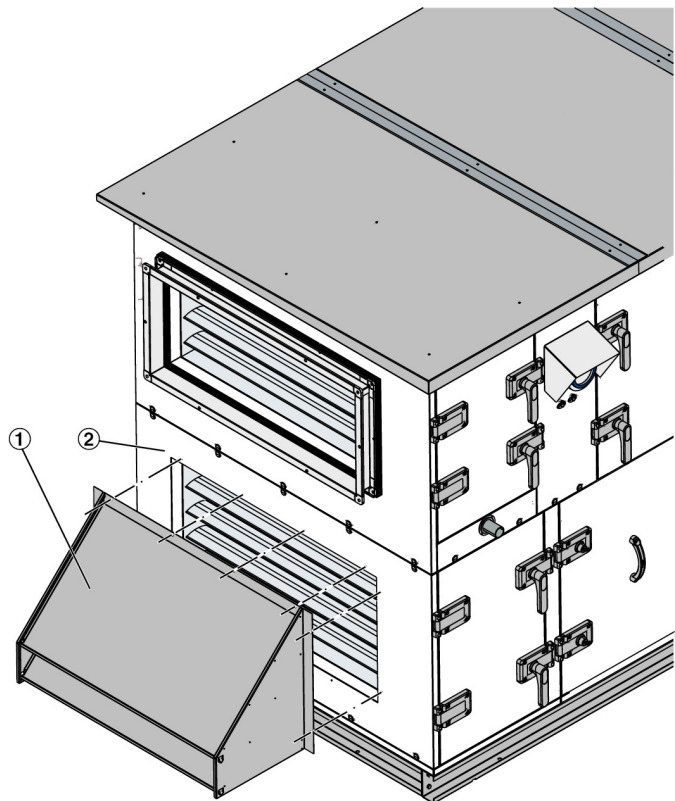

Fig. 23: Positioning the weather hood
- ▶ Position the weather hood ( Fig. 23 /2) flush with the hole pattern on the panel ( Fig. 23 /1) and screw on with pan head screws (M6x12).